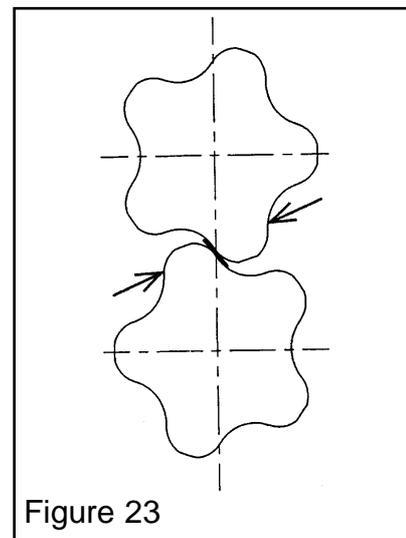

Figure 23
b) Pinch a 0.15mm (0.006 inch) feeler blade between two lobes - see Figure 23.
c) Push both gears forward. If both gears contact their gear spacers, fit tab washers (11) and nuts (12) to both shafts, then continue from (d) below.